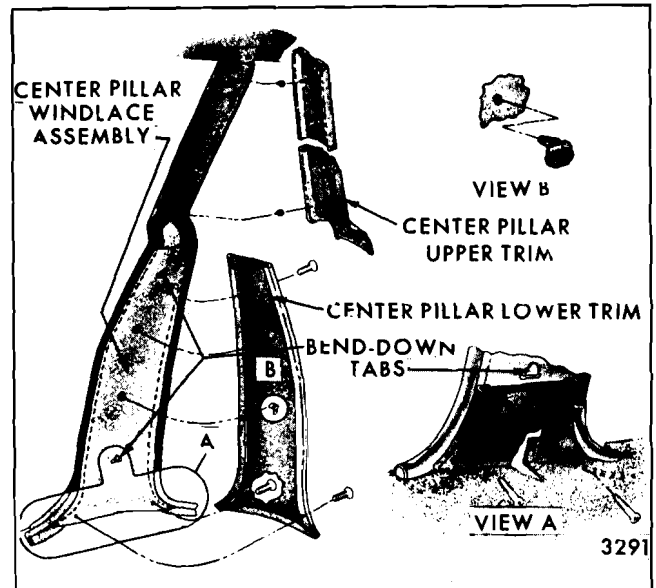

Fig. 14-39—Center Pillar Trim - "A-B-C and X" Four Door Closed Styles.
1. Remove center pillar upper trim by removing exposed screws if present. If no screws are present, gently pry upper trim serrated attaching nails from center pillar panel (Fig. 14-39).
3. Remove all exposed screws from center pillar lower trim and gently pry attaching clips from center pillar attaching holes. (See Fig. 14-39.)
NOTE: Center pillar windlace is attached to foundation board as a separate assembly. To remove assembly, after center pillar lower trim is off, straighten bend-down tabs through foundation board and lift away (Fig. 14-39).